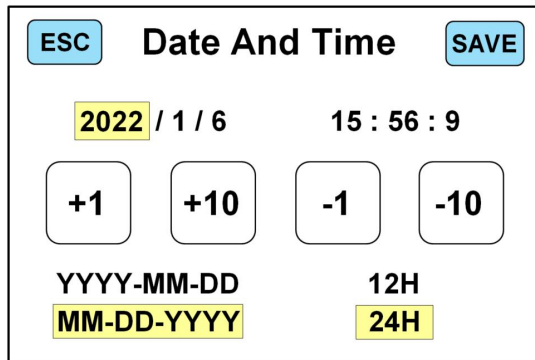

Figure 46
2) Touch “1. Time and date” to enter the time & date setting interface, as shown in Figure 46 below: